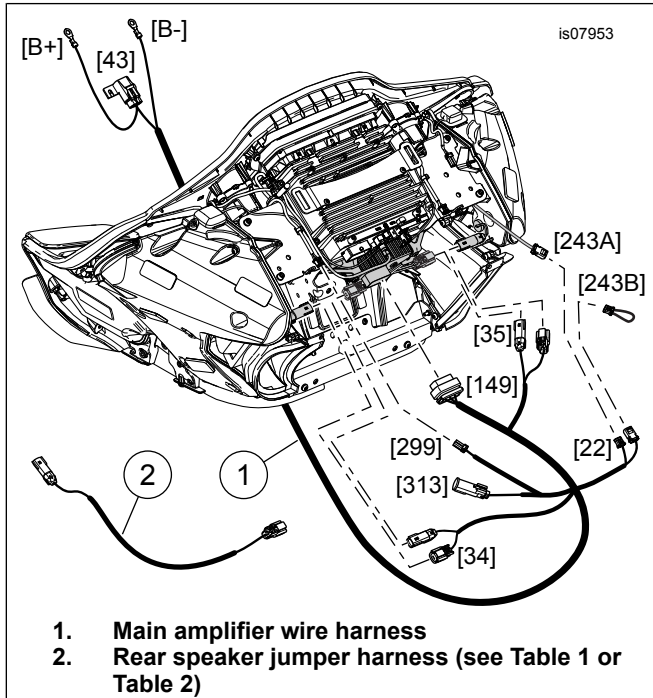

Figure 4. Harness Connections
4. See Figure 4. Position the harness as shown. Plug in the connectors. Connections for [34], [35], [162], [313], [299] and [22] are detailed in the following notes.
- Four-way Molex connector [162] provides rear channel output from the radio. Used for speaker output on models without amplifier (see Figure 4 ). Unused with primary amp. Used for secondary amp INPUT.